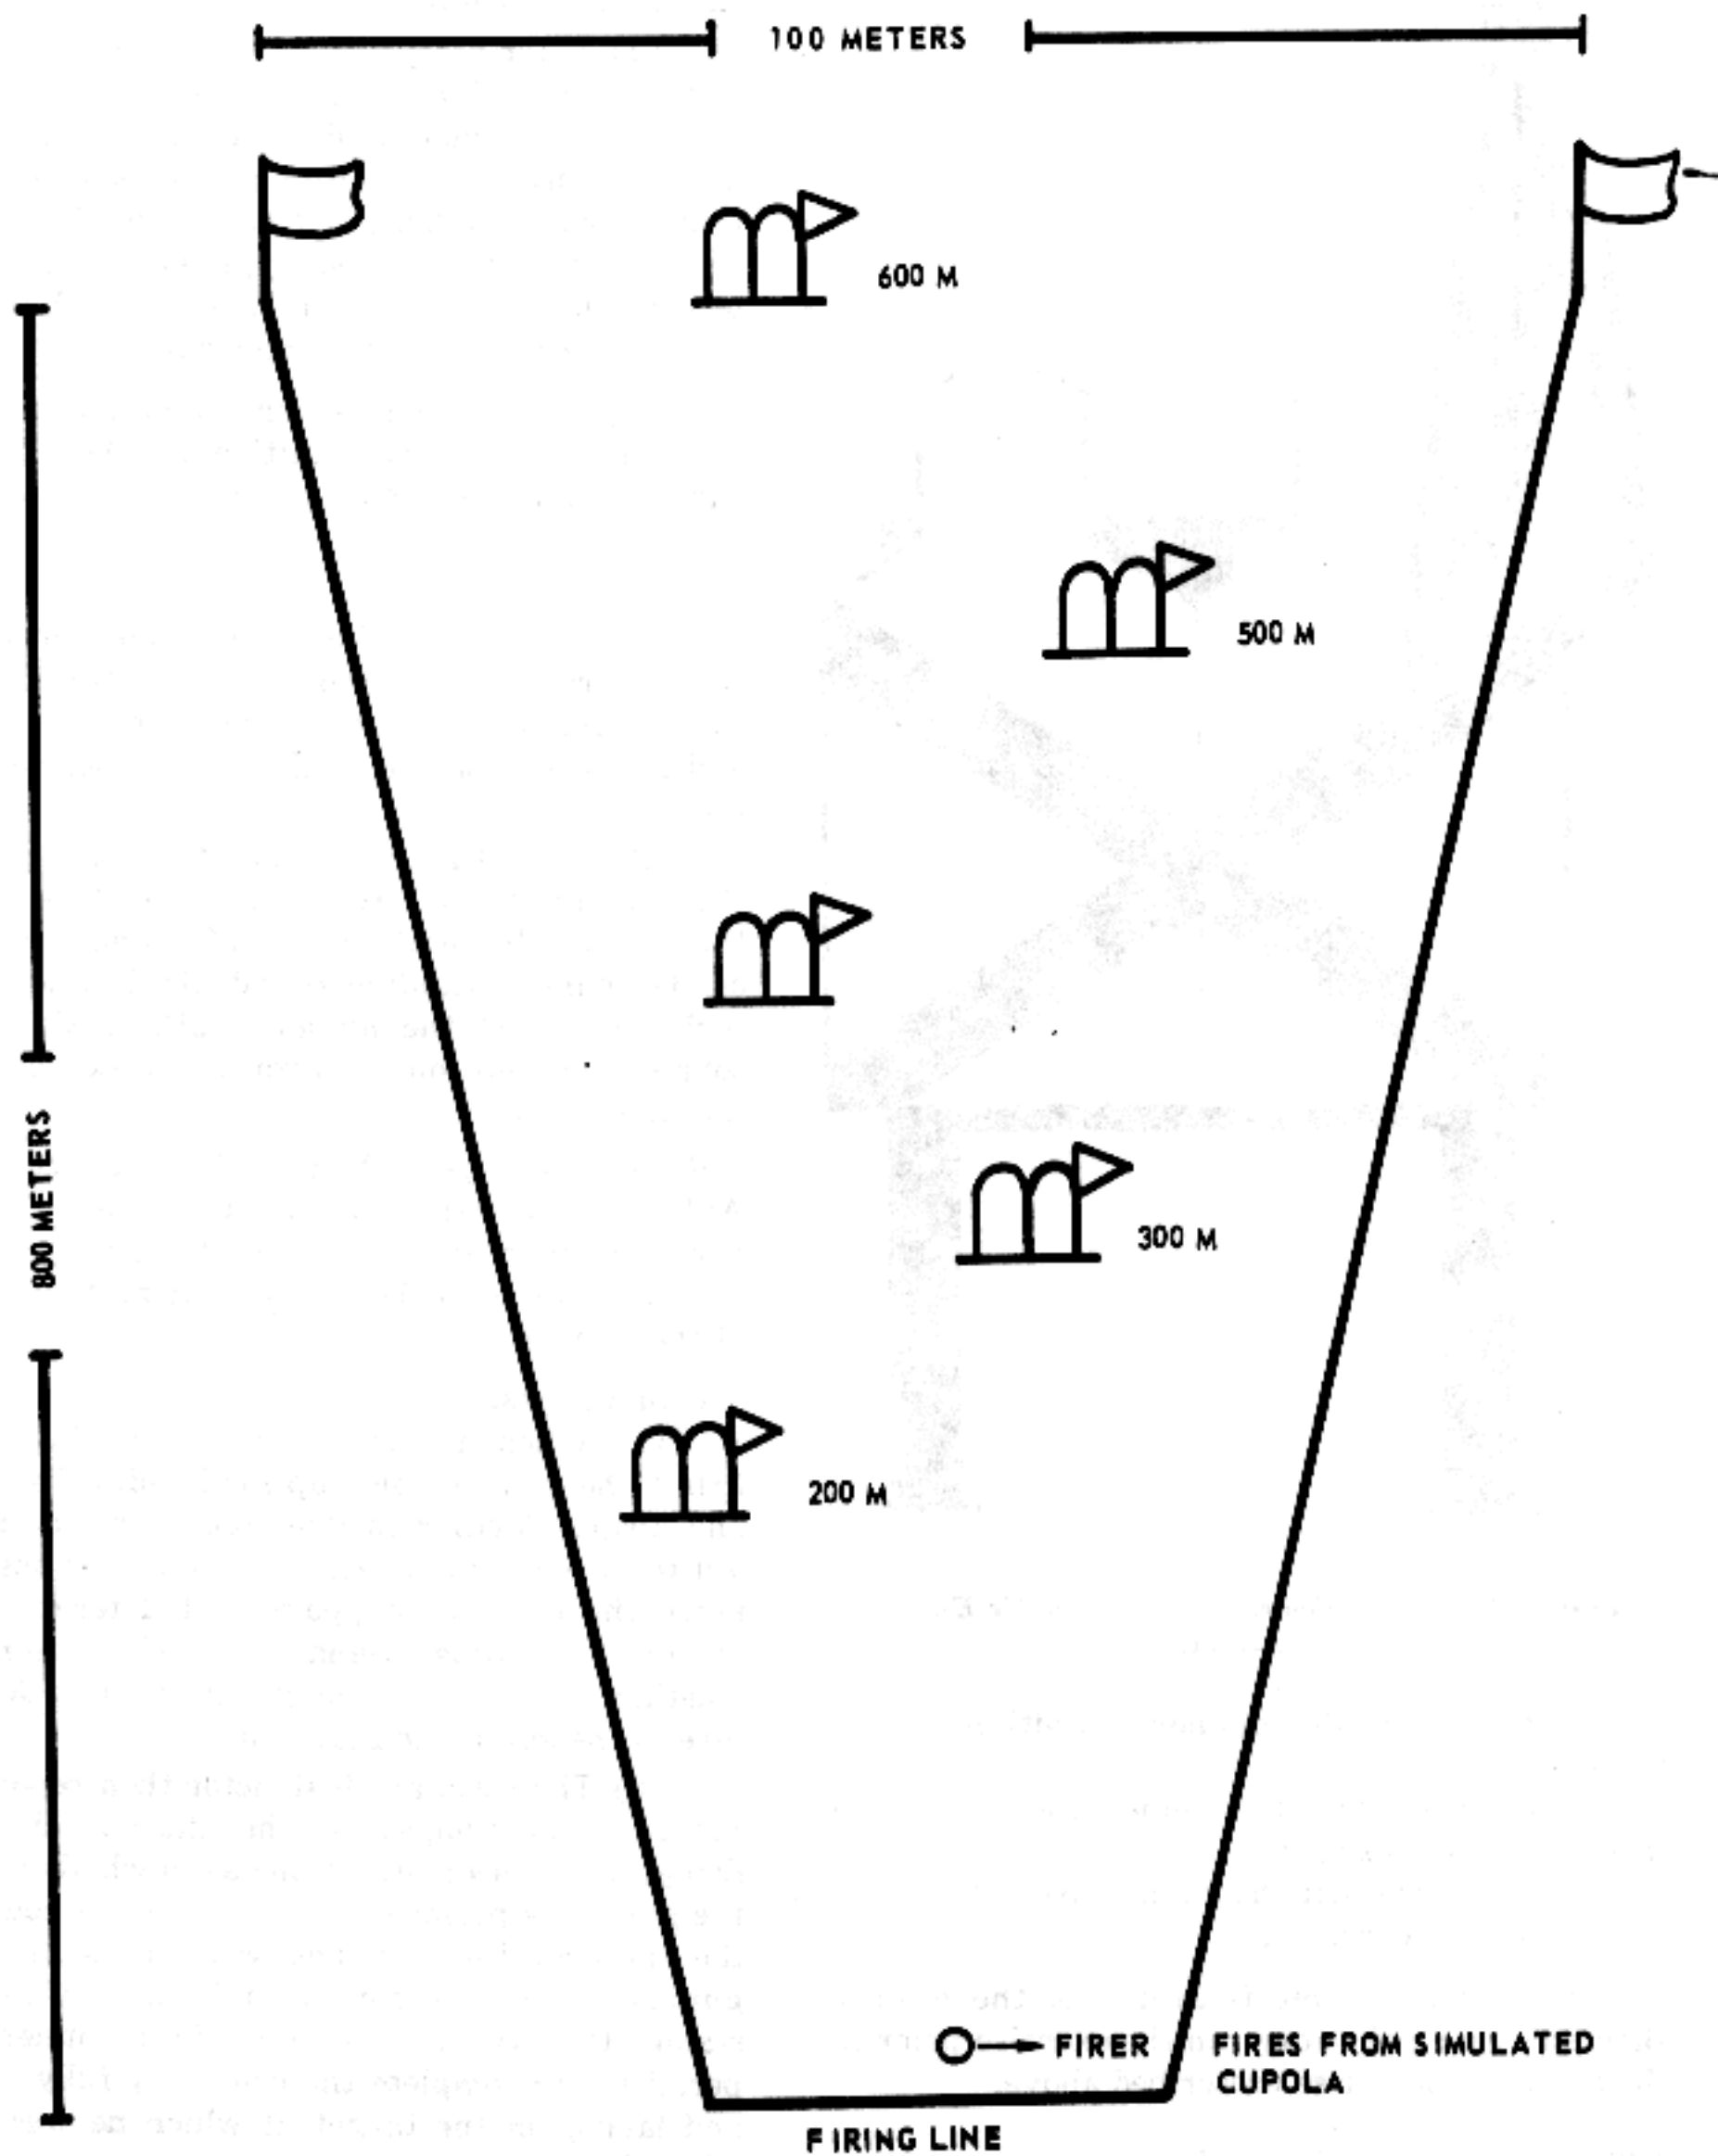

Figure 157. Range layout, transition range.
(1) The instructor uses a demonstration crew of three men. The acting safety NCO, takes a position on the right of the gun facing to the rear. The gunner is in prone position, five paces in rear of the gun. The ammunition bearer is five paces in rear of the gunner, with one ammunition case containing the prescribed number of rounds to fire the course. The equipment for the demonstration consists of one mounted machinegun, ammunition for the course, and two double E-silhouette targets. The targets are placed so that the instructor can point to them.
(2) The instructor explains that the five targets are located in a lane that is not more than 100 meters wide at the extreme range, and not less than 10 meters wide at the firing line. The nearest target is located approximately 400 meters from the firing line, and the far target is 1,000 meters. Intermediate targets are placed irregularly in width and depth (fig 157). The targets may be the disappearing type or may be used with the bases flush with the ground on stakes. All targets consist of double E-type silhouettes mounted abreast, without interval (fig 158). Ricochets hitting the targets are hits.